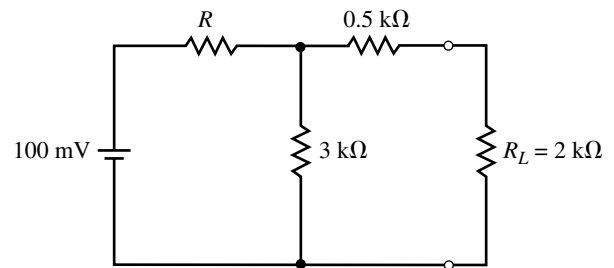

FIGURE 9–100
40. Repeat Problem 39 for the circuit of Figure 9–100.